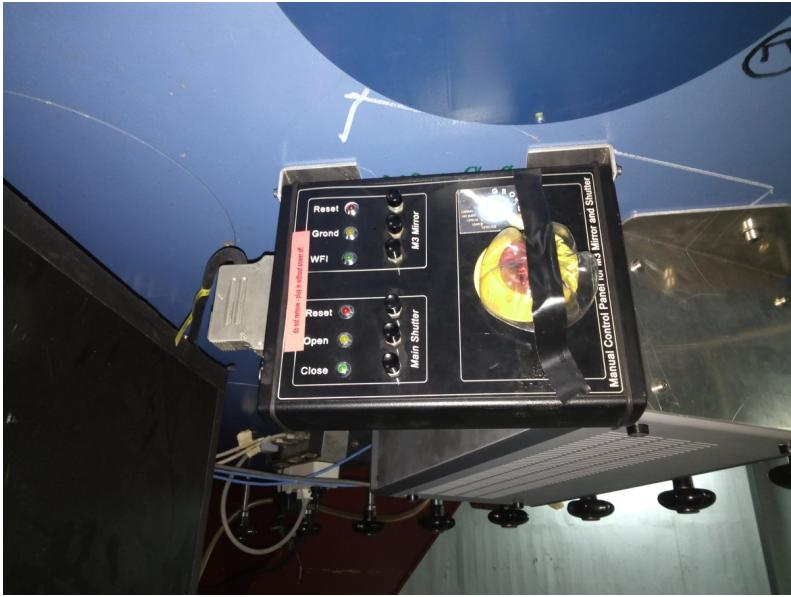

Figure 10.11: The GROND mirror and main cover control box.
- On the box (Fig. 10.11, p. 84), press the grondM3 WFI button.